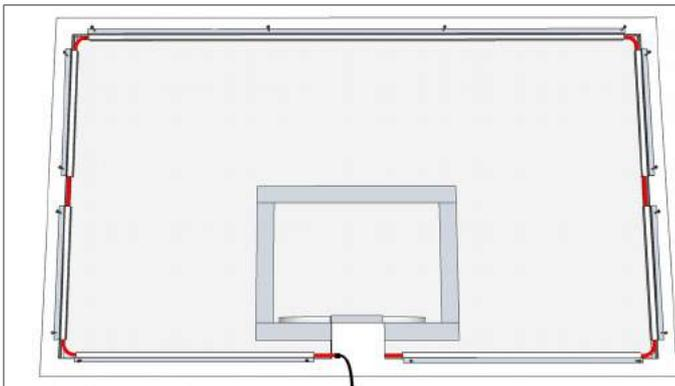
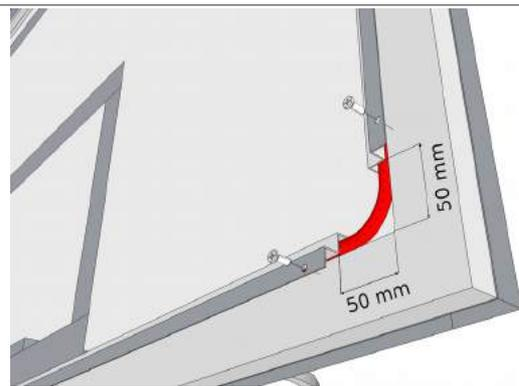

Fig. 4.1: Position of the Perimeter Light (Rear view of the backboard).
Fig. 4.2: Position of the Perimeter Light (Rear view of the backboard).
The Perimeter Light should be placed along the edges of the back of the transparent backboard, as in Fig. 4.1. The Perimeter Light should be fastened and secured with the proper fastening brackets and screws provided, as in Fig. 4.1 and Fig. 4.2.
- there is about 5 cm of space left between the brackets at the corners of the backboard, to ensure that the Perimeter Lights curve properly (Fig. 4.2).